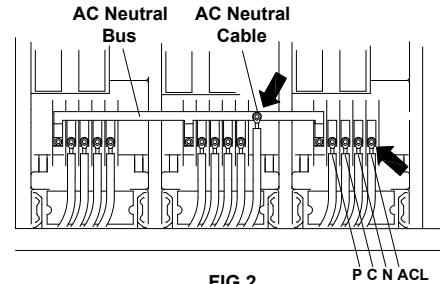

FIG.2
2. Disconnect AC Neutral Cable. Disconnect and remove AC Neutral Bus. Figure 2.
3. Disconnect Power Cables P,C,N & ACL. Figure 2.